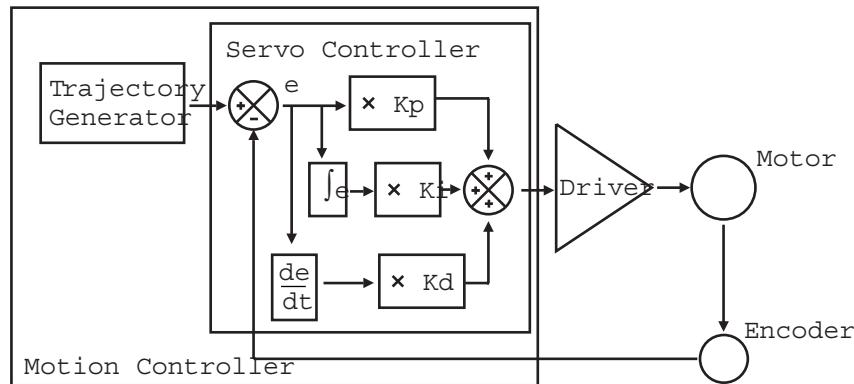

Figure 5.16: PID Loop
**Figure 5.16** shows the PID servo loop diagram. The derivative term is added to the proportional and integral one. All three process the following error in their own way and, added together, form the control signal.